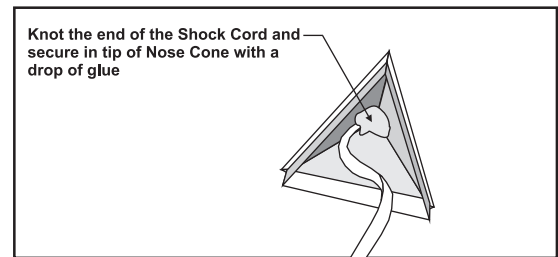

Figure 13
13. Tie a knot in one end of your elastic shock cord and, with a drop of glue, glue this into the tip of the Nose Cone, as shown in **Figure 13**. If you used a Kevlar® cord in Step 2, tie the free end of this cord to the free end of the elastic cord.